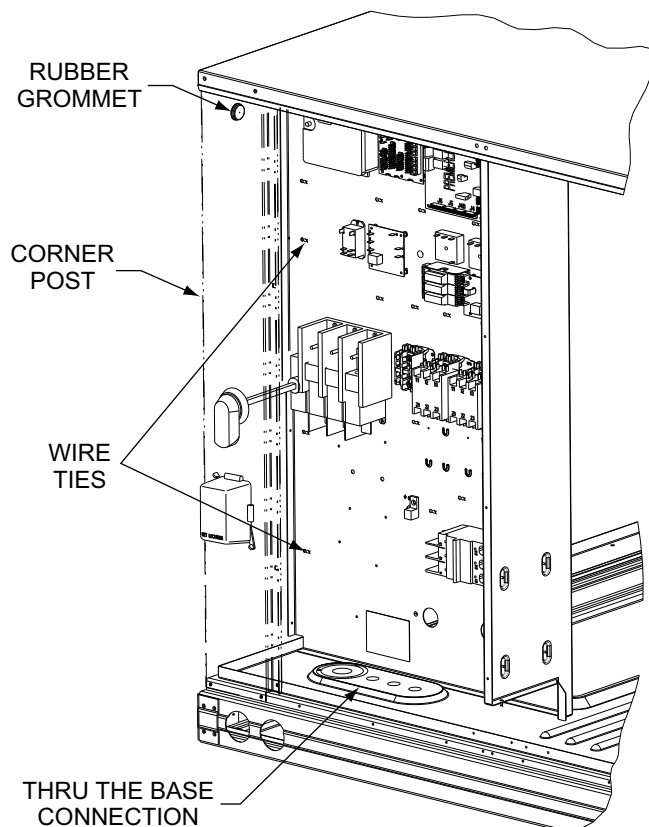

Fig. 48 — Field Control Wiring Raceway
Correctly rated low voltage wire can be routed through the rubber grommet located on the corner post adjacent to the control box access panel. Route wire through the grommet and then route the wire behind the corner post utilizing the factory provided wire ties secured to the control box. This will ensure separation of the field low voltage wire and the high voltage circuit. Route the low voltage wire to the central terminal board. See Fig. 48.
2. Feed wires through the raceway built into the corner post (see Fig. 48) to the 24-v barrier located on the left side of the control box. The raceway provides the UL-required clearance between high-voltage and low-voltage wiring.